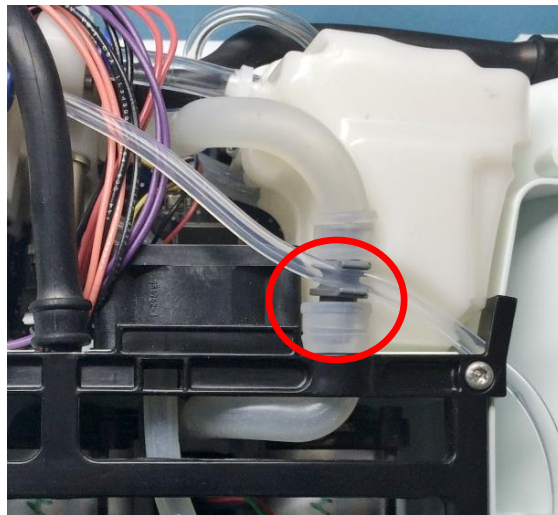

Figure 7: Unplug dual feed tube
5. Unplug the dual feed tube from the grey inlet union using a flathead screwdriver, if necessary (Figure 7).
3. Re-attach the dual feed tube to the black inlet union, making sure the tube is fully secured (Figure 7).